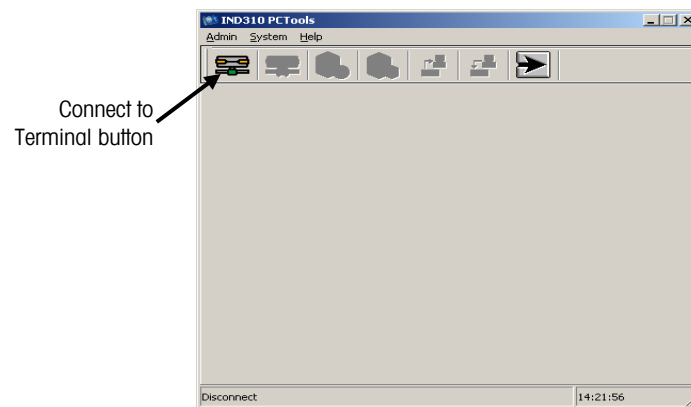
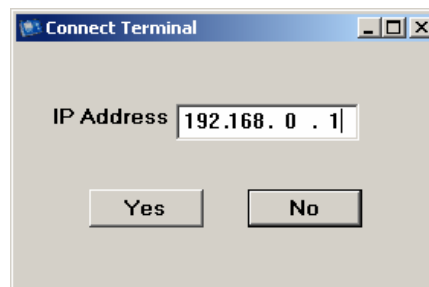

Figure B-8: Main IND310drive PCTools Screen
Figure B-9: Connect Terminal Dialog Box
1. Double click on the PCTools icon on the desktop to start PCTools. The main IND310drive PCTools screen displays (Figure B-8).
2. Connect to the IND310drive terminal by clicking the Connect to Terminal button (Figure B-8). The Connect Terminal dialog box displays (Figure B-9).